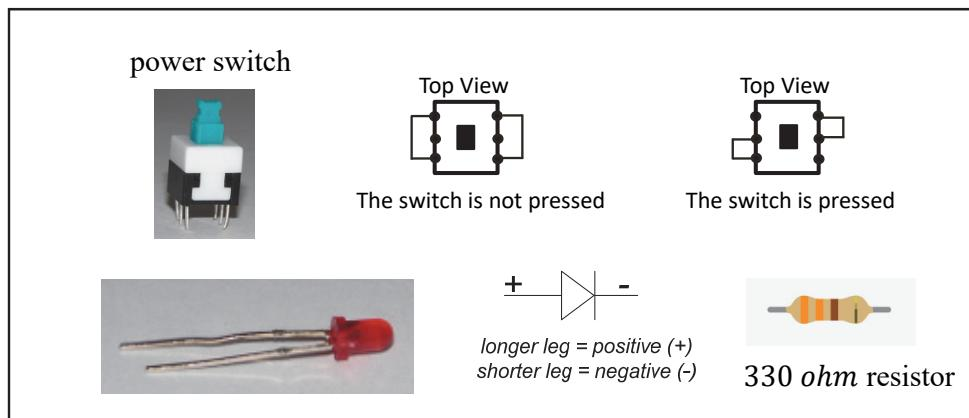
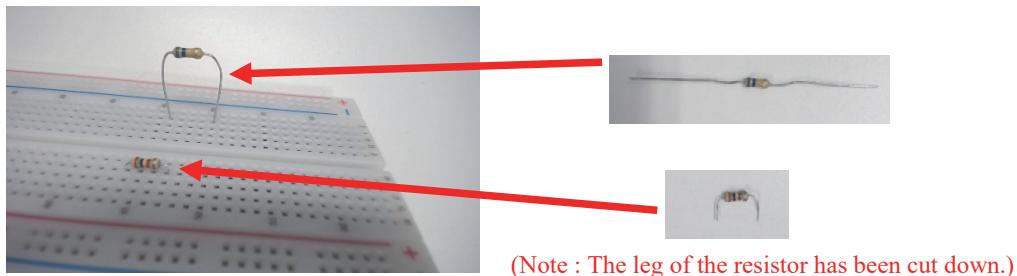
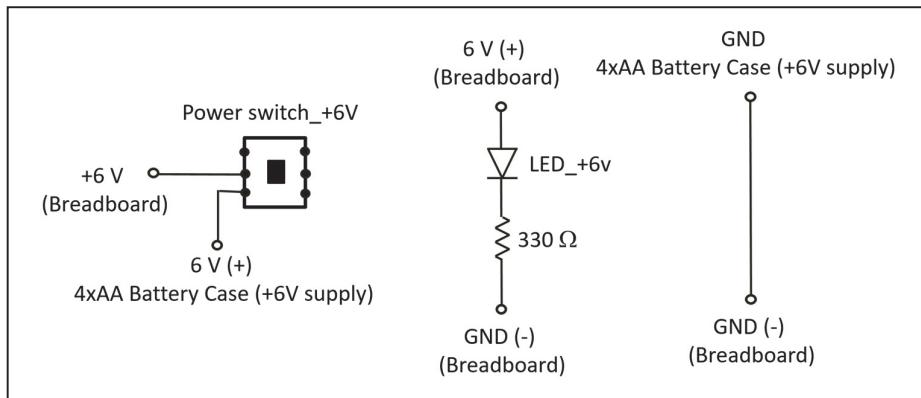

Fig. 8
Fig. 9
Fig. 10
- 5.2.4. The power switch, LED, and 330 ohm resistor are shown in Fig. 8. You could cut down the resistor legs if you want, as shown in Fig. 9. Connect two power switches with the LED indication: one for +6V as shown in Fig. 10, and another one for -6V as shown in Fig. 11. Put all the components on the breadboard as shown in Fig. 12. You could refer to the video (video4-power\_switch.mp4) for demonstration.